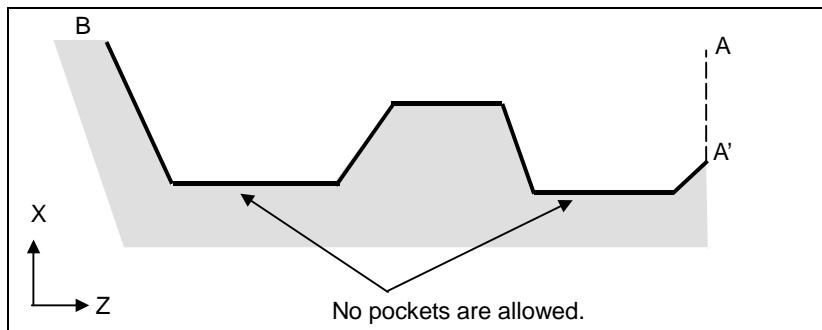

Fig. 6.4.1 (d) Figure which does not show monotone increase or decrease (type I)
- (2) The figure along path A'-B must show monotone increase or decrease in the directions of both axes forming the plane (Z- and X-axes for the ZX plane). It must not have any pocket as shown in the Fig. 6.4.1 (d).